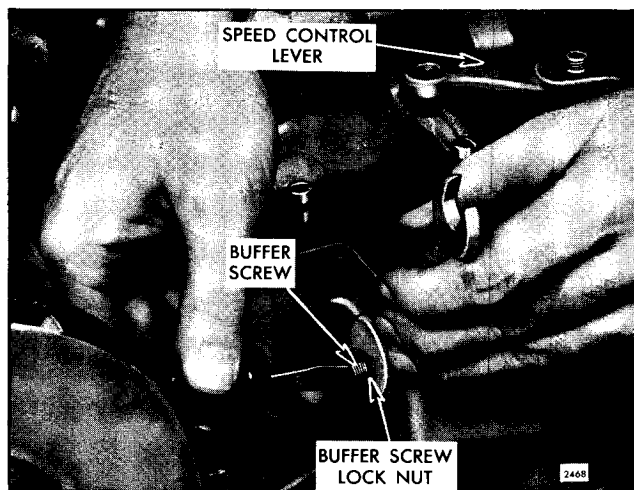

Fig. 7 - Adjusting Buffer Screw
1. With the engine running at normal operating temperature, turn the buffer screw in so that it contacts the differential lever as lightly as possible and still eliminates the engine roll. See Fig. 7.